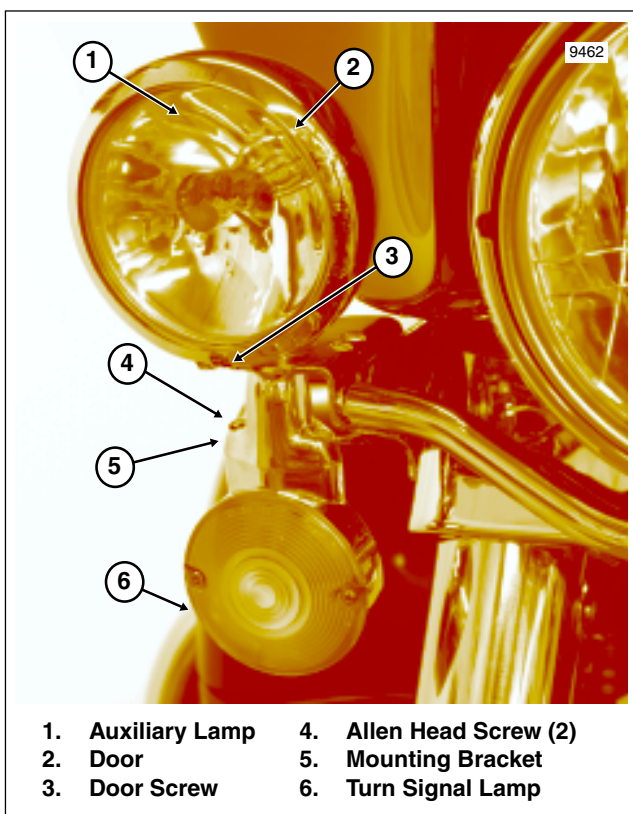

Figure 8-32. Auxiliary and Front Turn Signal Lamp
1. Loosen auxiliary lamp door screw as required to pull lamp door from lip of lamp housing. See Figure 8-32.
5. Remove two allen head screws to release turn signal lamp from mounting bracket. See Figure 8-32.
- Start two allen head screws to secure turn signal lamp to mounting bracket. See Figure 8-32. Verify that conduit fits in slot at back of bracket and is not pinched. Alternately tighten screws to 36-60 **in-lbs** (4.1-6.8 Nm).